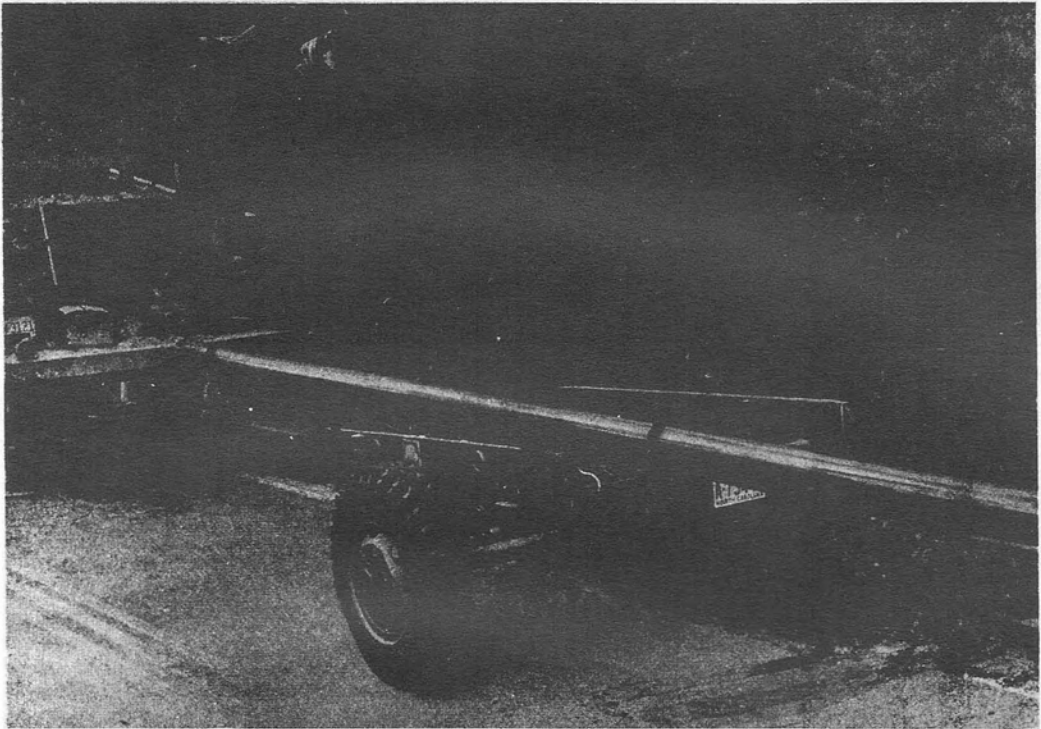

Fig. 4—Single Pole on Trailer
6.04 When one pole is carried on a trailer the king pole binders are used to bind the pole. When these binders are not supplied, use a load binding winch and a portable pole binder (Fig. 4).